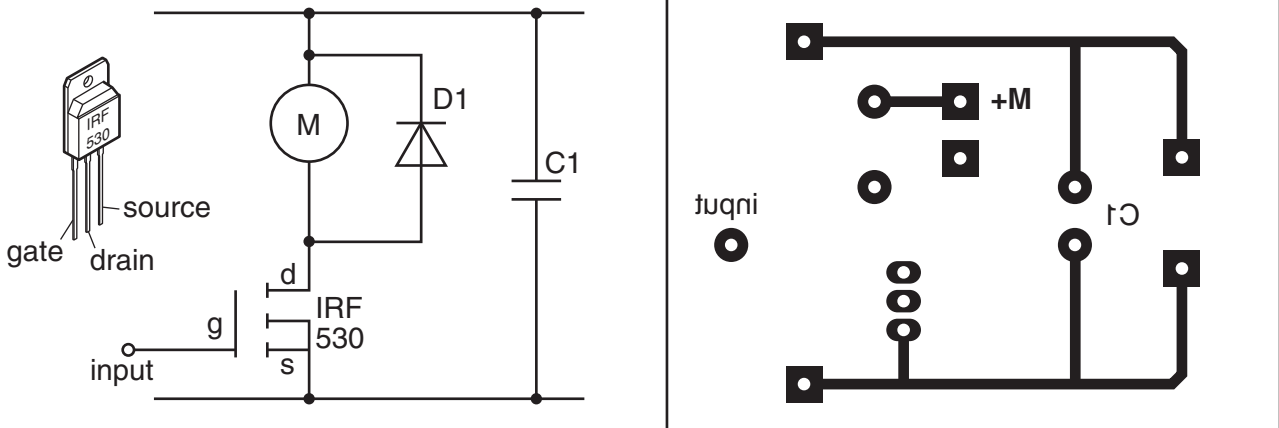

Fig. 15
- 5 Fig. 15 shows part of a circuit diagram for a driver circuit to operate a small dc motor. Next to the circuit diagram is the PCB layout for the circuit with some connections missing.